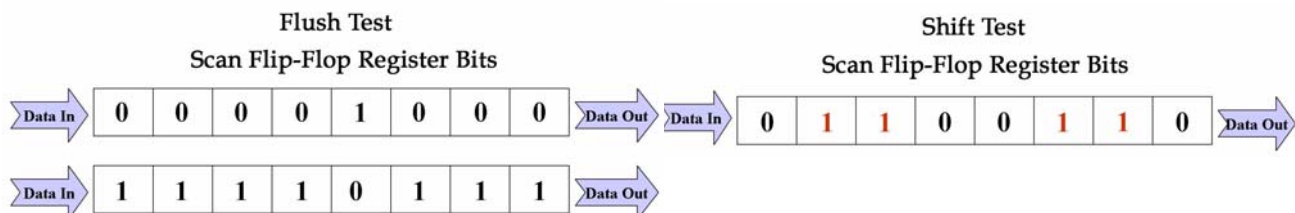

Figure 2-14 Verifying the Scan Logic
1. *Flush Test* (see Figure 2-14 left) - In this test all flip-flops are initialized to logic 0, and a single logic 1 is clocked through from SDI to SDO. The procedure can then be repeated with a single logic 0 flushed through a background of logic 1's. This sequence checks the ability of each flip-flop to assume both logic states.
2. *Shift Test* (see Figure 2-14 right) - In this test, the data sequence 00110011... is shifted through the register. This sequence exercises each flip-flop through all combinations of logic states.